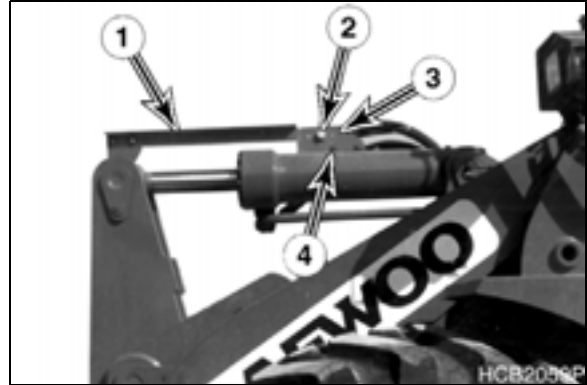

Figure 41
3. Loosen bolts (4, Figure 41) on bracket (3).
4. Position bracket (3, Figure 41) so that end of arm (1) is aligned with center of magnetic switch (2).
5. Tighten bolts (4, Figure 41).
6. Start engine. Raise boom, dump bucket, then move bucket lever into crowd detent position. Now lower boom and check to see that bucket has stopped at required position. A small readjustment of bracket (3, Figure 41) may be necessary.